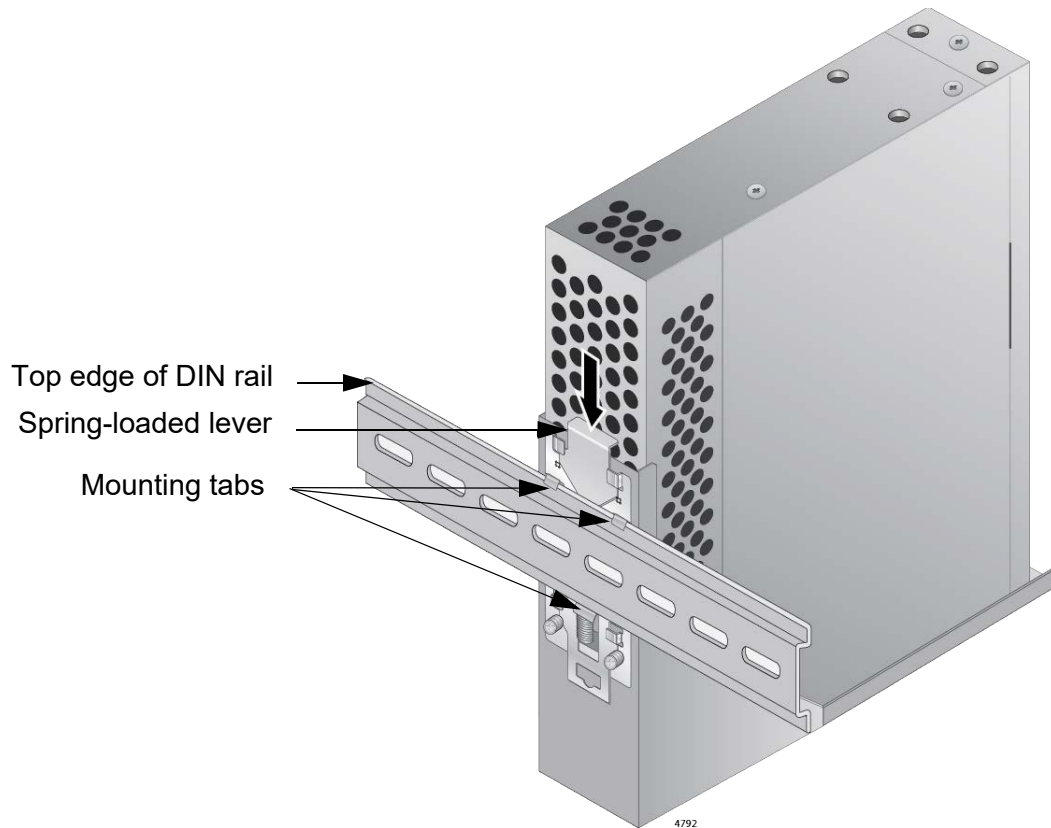

Figure 46. Installing the Device on a DIN Rail
2. With the spring-loaded lever in the down position, place the mounting tabs on the DIN rail as shown in Figure 46.